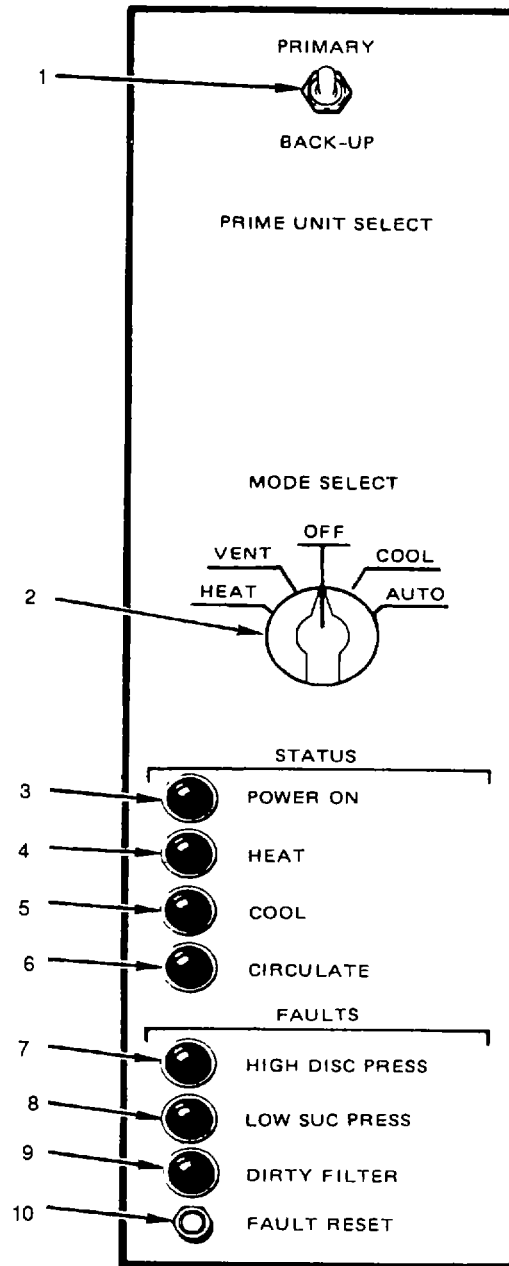

Figure 2-1. Controls and Indicators
**2.2 OPERATOR'S CONTROLS AND INDICATORS.** See fig 2-1 for a general description of the controls and indicators with which an operator will normally be concerned. For specific operating instructions, see Sections III and IV of this chapter.
- a. PRIME UNIT SELECT Toggle Switch (1) Allows selection of unit as primary or backup.
- b. MODE SELECT Rotary Switch (2). Allows selection of mode of operation (see paragraph 2.8 through 2.12).
- c. POWER ON (3) (green) Indicates power available.
- d. HEAT (4) (green) Indicates HEAT mode on.
- e. COOL (5) (green). Indicates COOL mode on
- f. CIRCULATE (6) (green) Indicates VENT mode on.
- g. HIGH DISC PRESS (7) (red) Indicates pressure too high in discharge line
- h. LOW SUC PRESS (8) (red) Indicates pressure too low in suction line.
- i. DIRTY FILTER (9) (red) Indicates return air filter requires servicing.
- j. FAULT RESET Push Button (10) Used to reset circuits after unit has been repaired..